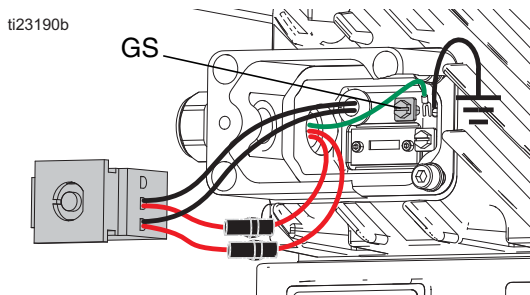

FIG. 11: Grounding Screw
- Route wires through fan cord grip (C1) attached to driver (not the junction box (S)).
- Reattach the ground wire to the grounding screw. Tighten ground screw. See FIG. 11.
- Use a ferrule to connect each fan wire to one of two wires coming out of the motor grommet. Then attach one wire set into the disconnect box location 1L1 and the other wire into location 3L2. See FIG. 11.